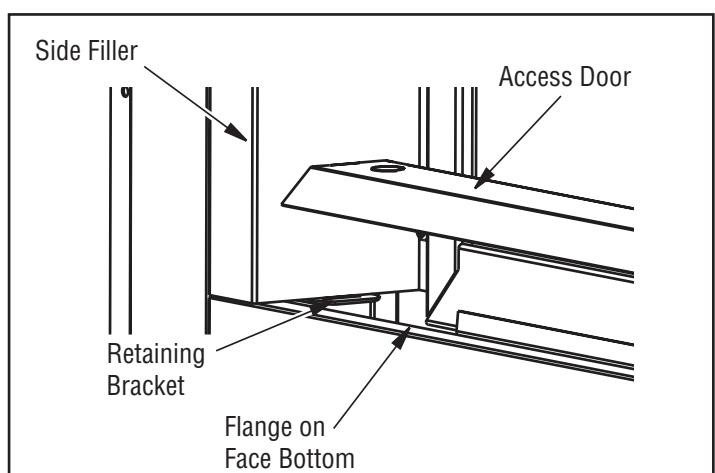

Figure 43 - Access Door for See-Thru Applications
1. Place access door into rectangular opening in front of the glass door with the slanted side facing forward. The slanted surface will slide underneath the flange of the bottom face. Insert tabs on side of access door into slots on retaining brackets (*See Figure 43*).